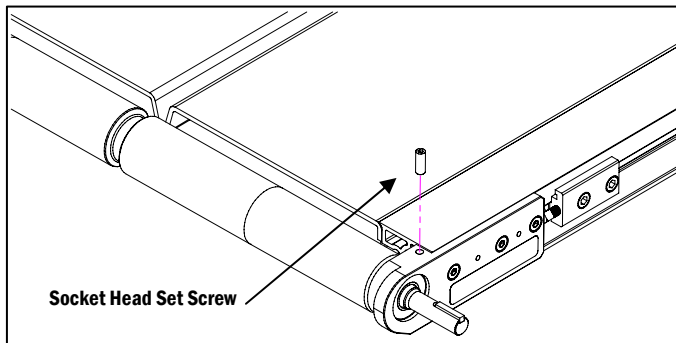
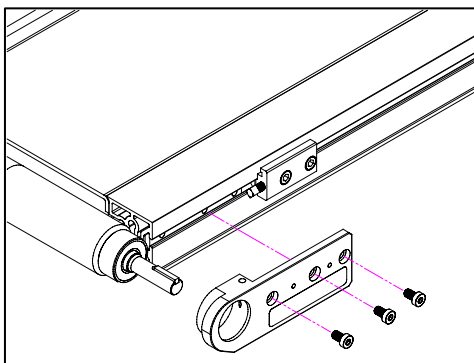

Figure 1
Figure 6
b. At the drive end of the conveyor, locate the bearing screw access holes in each Bearing Block. Using an Allen Wrench, completely remove both set screws and set aside (**Figure 1**).
h. Replace the three M6 Low Head Cap Screws in each Bearing Block and tighten with an Allen Wrench (Figure 6). Center the Drive Pulley V-Groove to the V-Groove in the slider bed. Tighten the bearing set screws in to the bearing screw access holes in each Bearing Block to lock the bearings into place (Figure 1). There should be no lateral float in the assembly.